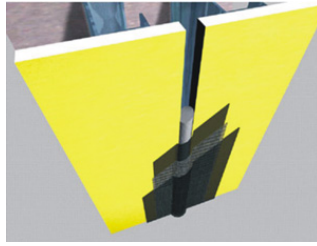

Figure 10
- c. Using a brush or 19 mm (3/4 in) nap roller, apply a liberal coat of AquaFlash Liquid material to the backer rod and adjacent substrate surface to the width of the AquaFlash Mesh - Figure 10.